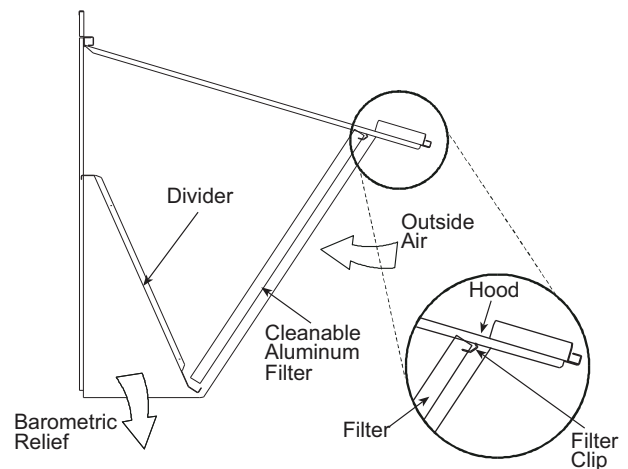

Fig. 22 — Economizer Filter Installation
6. Open the filter clips which are located underneath the hood top. Insert the aluminum filters into the bottom filter rack (hood divider). Push the filter into position past the open filter clips. Close the filter clips to lock the filters into place. See Fig. 22.